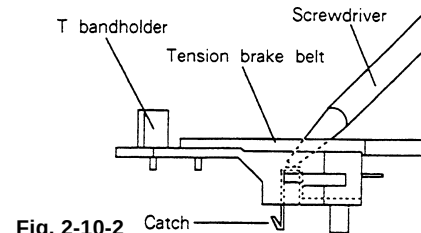

Fig. 2-10-2
- Unfasten the catch of the T band holder from the main plate with a small screw driver etc. as shown in Fig. 2-10-2. Raise and remove the T band holder with care not to score or dirty the tension brake belt.
Note: In the assembly of the T band holder, make certain that the hook of the holder positively engages with the reverse side of the main plate. If the hook is difficult to engage with the main plate, push the hook lightly with a small screw driver etc. (Refer to Fig. 2-10-2.)